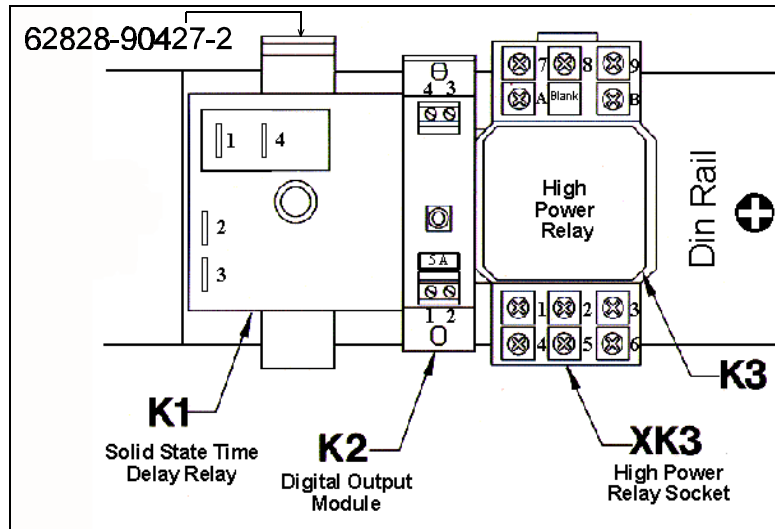

Figure 1 SSTDR, DOM, and UPSBC Assembly
2. Slide the black plastic SSTDR bracket (P/N 62828-90427-2) onto the Din Rail supplied in the FMK. Install the SSTDR (K1) onto this bracket using the machine screw provided in the FMK. Refer to figure 1.
3. Slide the DOM (K2) onto the Din Rail according to the connector orientation illustrated in figure 1.
8. Slide the XK3 assembly onto the Din Rail according to the connector orientation illustrated in figure 1.